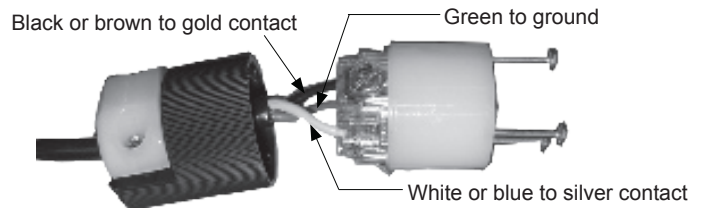

Fig. 2-10, Receptacle for Battery Heater Mat Line Cord
8. If you are installing a battery heater mat, terminate the battery heater mat line cord with the receptacle provided. See. Fig. 2-10